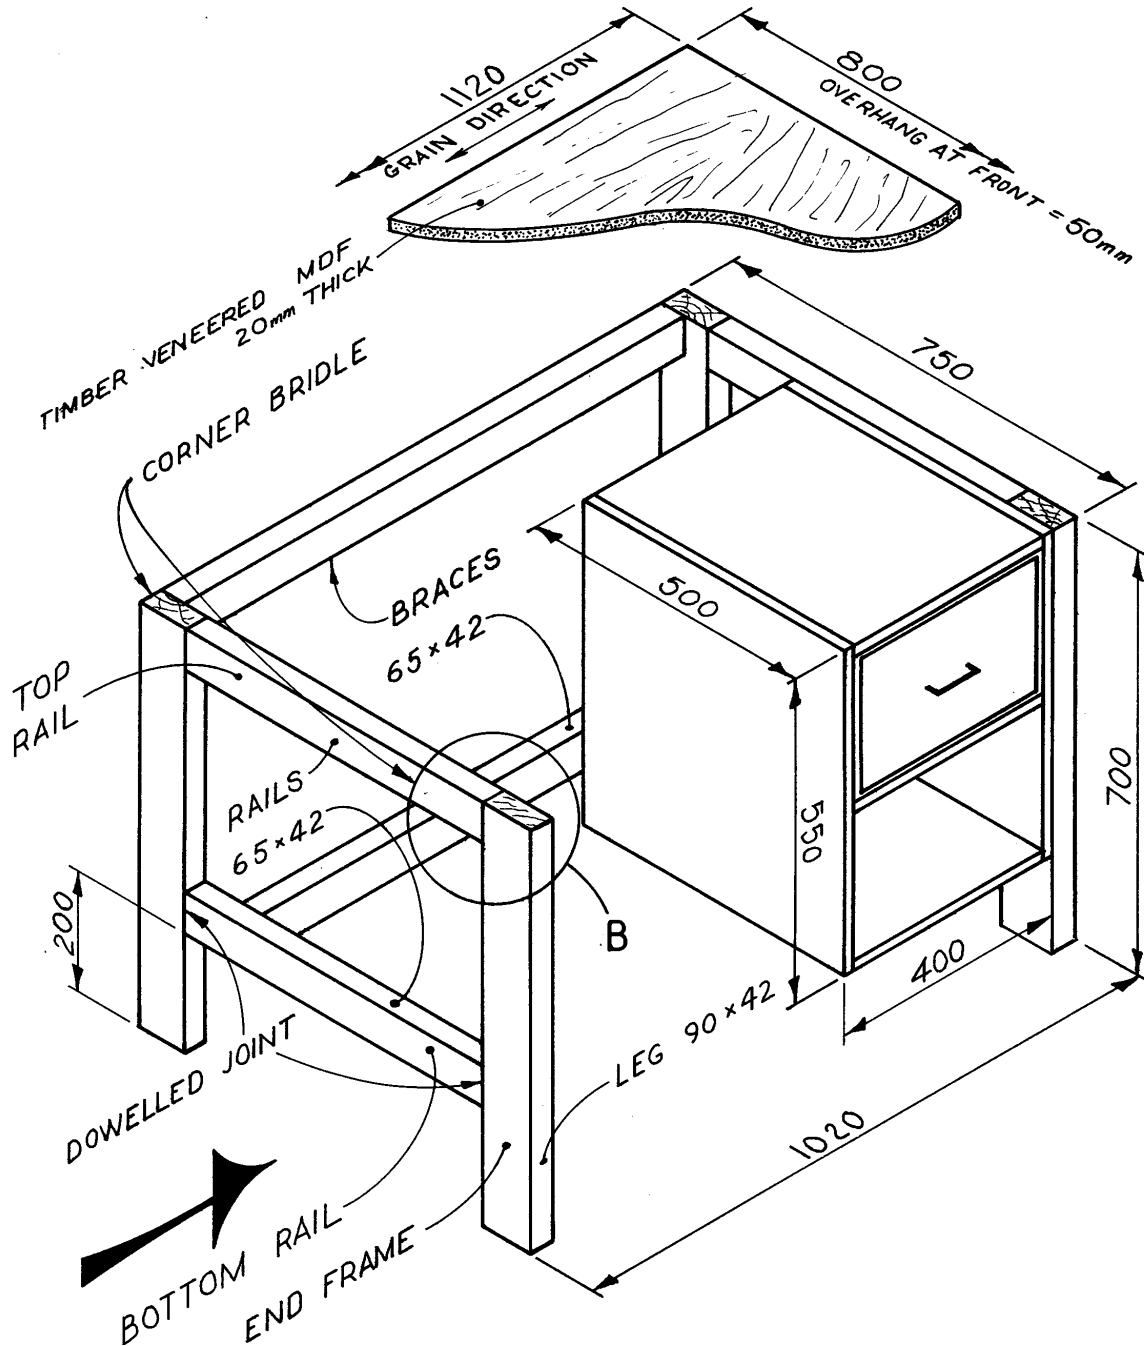
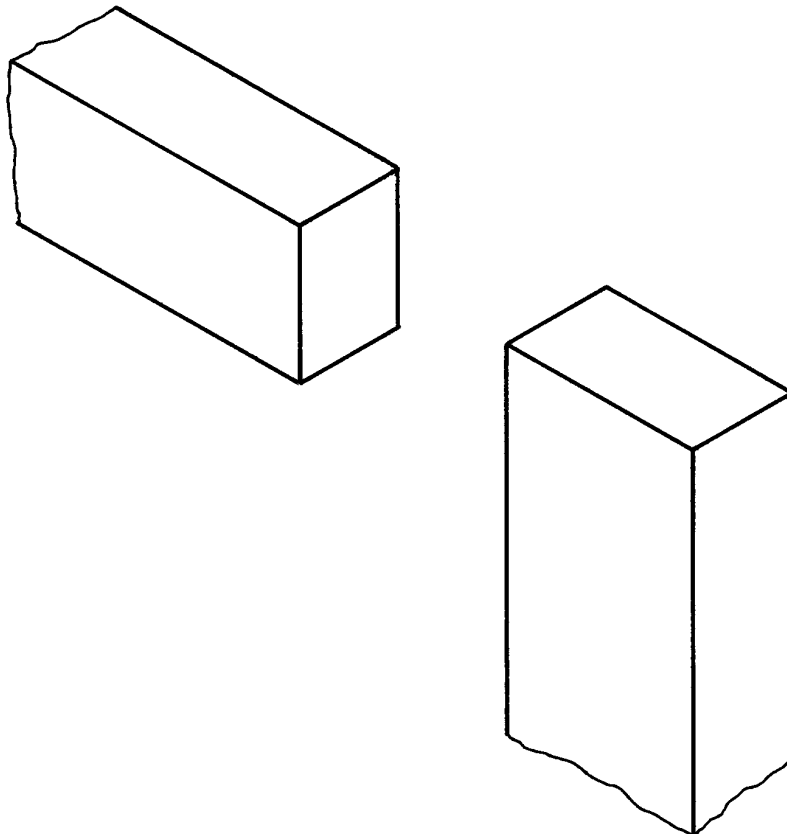

FIG. 1. STUDENT DESK
FIG. 2
A furniture manufacturing company has designed a prototype for a student desk. Figure 1 shows a pictorial drawing of the student desk. The desk top is removed for clarity.
- (ii) The joint at **B** in Figure 1, is a corner bridle joint. Complete the drawing in Figure 2 to show the marking out for construction of the corner bridle joint. Clearly indicate the waste in the joint marking out.
- (iv) Name TWO alternative timber corner joints (apart from a dowelled joint) that could be used at **B** in Figure 1, in place of the corner bridle joint.
- (a) The student desk shown in Figure 1 has been designed to be assembled and disassembled on-site. The two end frames are joined together by two braces.